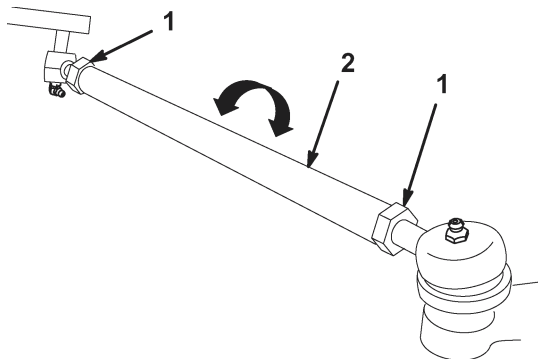

Figure 28
3. If the measurement is greater than $\frac{1}{4}$ in. (6.4 mm), loosen the jam nuts at both ends of the tie rods (Fig. 28).